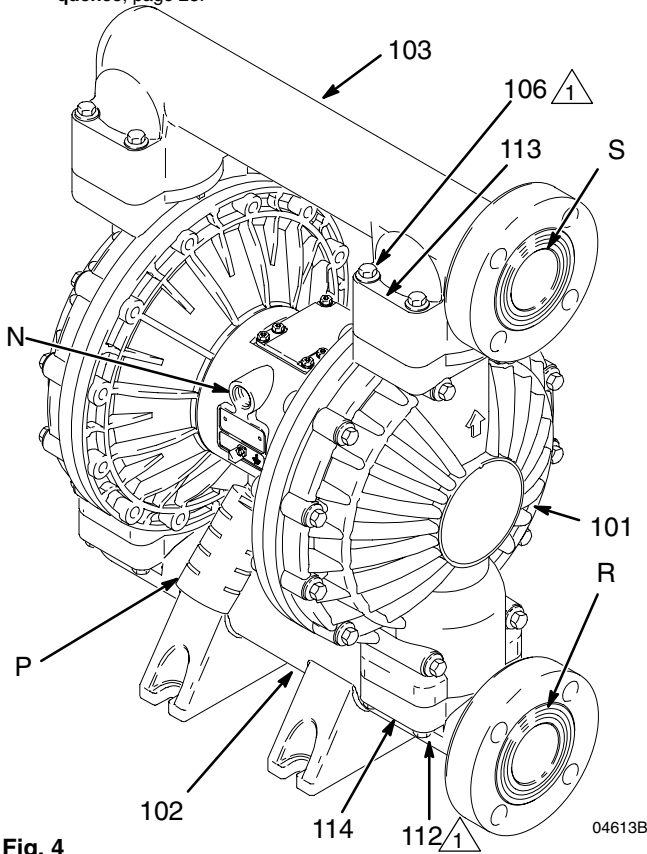

Fig. 4
The pump is shipped with the fluid inlet (R) and outlet (S) ports facing the same direction. See Fig. 4. To change the orientation of the inlet and/or outlet port:
1. Remove the screws and washers (106, 112, 113, and 114) holding the inlet (102) and/or outlet (103) manifold to the covers (101).